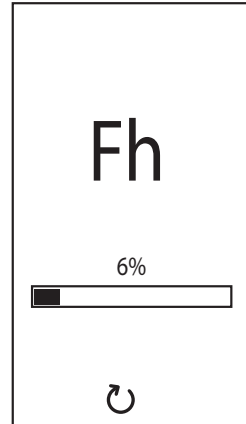

fig. 9- Vent with fan off
- In the next 280 seconds, the venting cycle continues with the fan off (fig. 9).